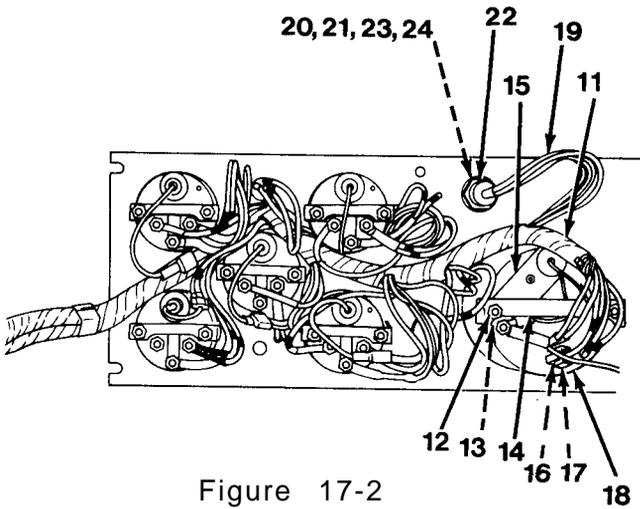
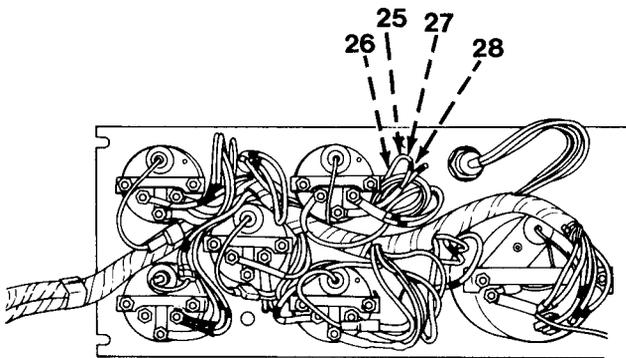

Figure 17-2
Figure 17-3
8. Removal of gauges: Tag and disconnect wires (11) from back of gauge and light. Remove two nuts (12), washers (13) and bracket (14). Pull gauge (15) out of panel. Remove light bulb assembly (16) from gauge (15). Remove filter (17) from light bulb (16). Push down and twist light bulb (16) to remove from socket (18, Figure 17-2). If necessary, use same procedure to remove remaining five gauges.
9. Removal of three dash lights: Tag and disconnect two wires (19), and remove nut (20) and internal tooth washer (21). Pull light socket (22) through dash panel. Unscrew cover (24), remove filter, and push and turn light bulb (23) to remove from socket (22). Follow same procedure to remove remaining two dash lights, if necessary.
10. Removal of axle centering lights: Hold socket (25) and remove nut (26). Pull socket (25) through back of panel and remove washer (27). To replace bulb (28, Figure 17-3), unscrew red lens cap and pull bulb (28) from back of lens cap. Follow same procedure to remove remaining anti-two block warning lights, if necessary.